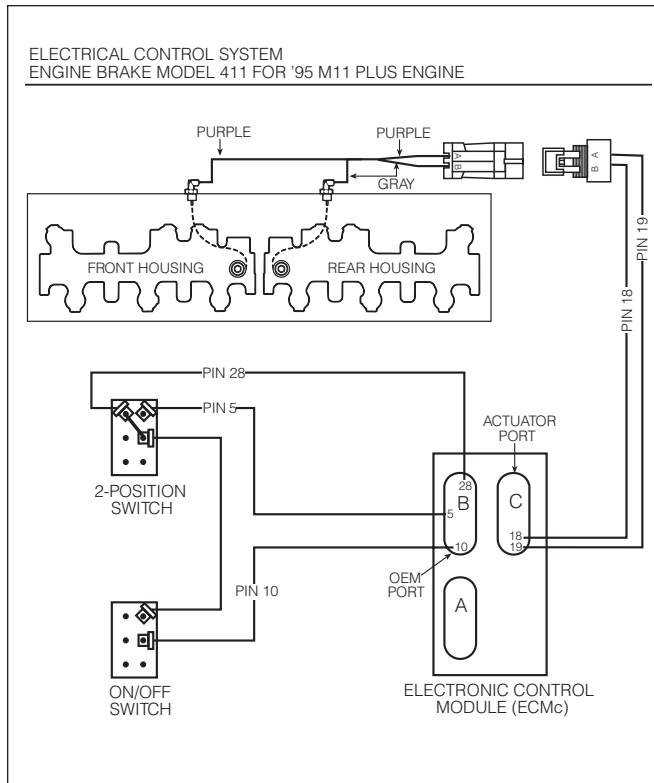

FIG. 20
1. For proper wiring installation, make all electrical connections as shown in Fig. 20.